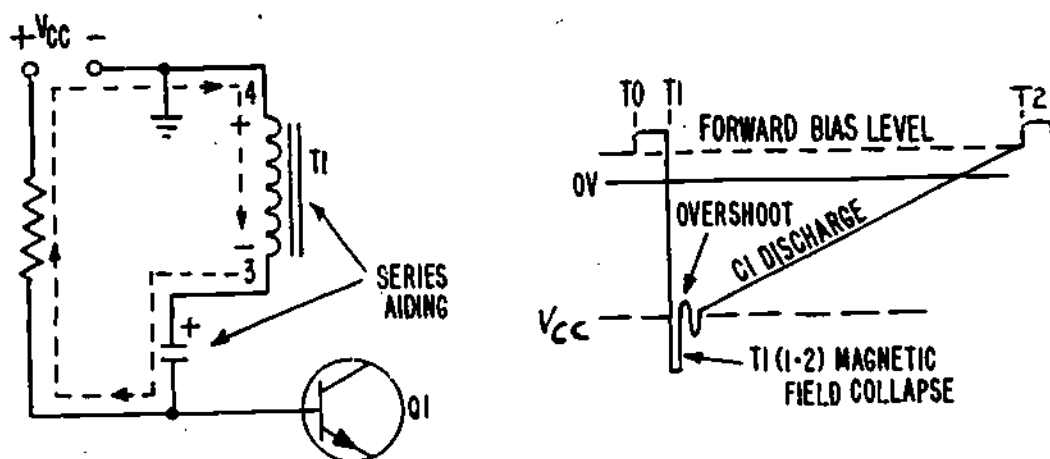

Figure 10
13. Figure 10 shows the components which determine the length of time that the transistor will be blocked. Besides this, a waveform showing the discharge of capacitor C1 is reflected in the figure.
14. Refer to the waveform shown on the right side of Figure 10. Notice the discharge curve associated with C1. During the time the capacitor is discharging, a negative potential is applied to the base of the transistor. Because of this, the transistor cannot conduct. Eventually capacitor C1 discharges to a point where the positive Vcc voltage is felt on the base of Q1. At this time the transistor again becomes forward biased, conducts, and the transformer action produces regenerative feedback. This occurs at time point T2 as indicated in the drawing. At this time the cycle repeats and the circuit will repeat the process. The entire cycle completes one oscillation.